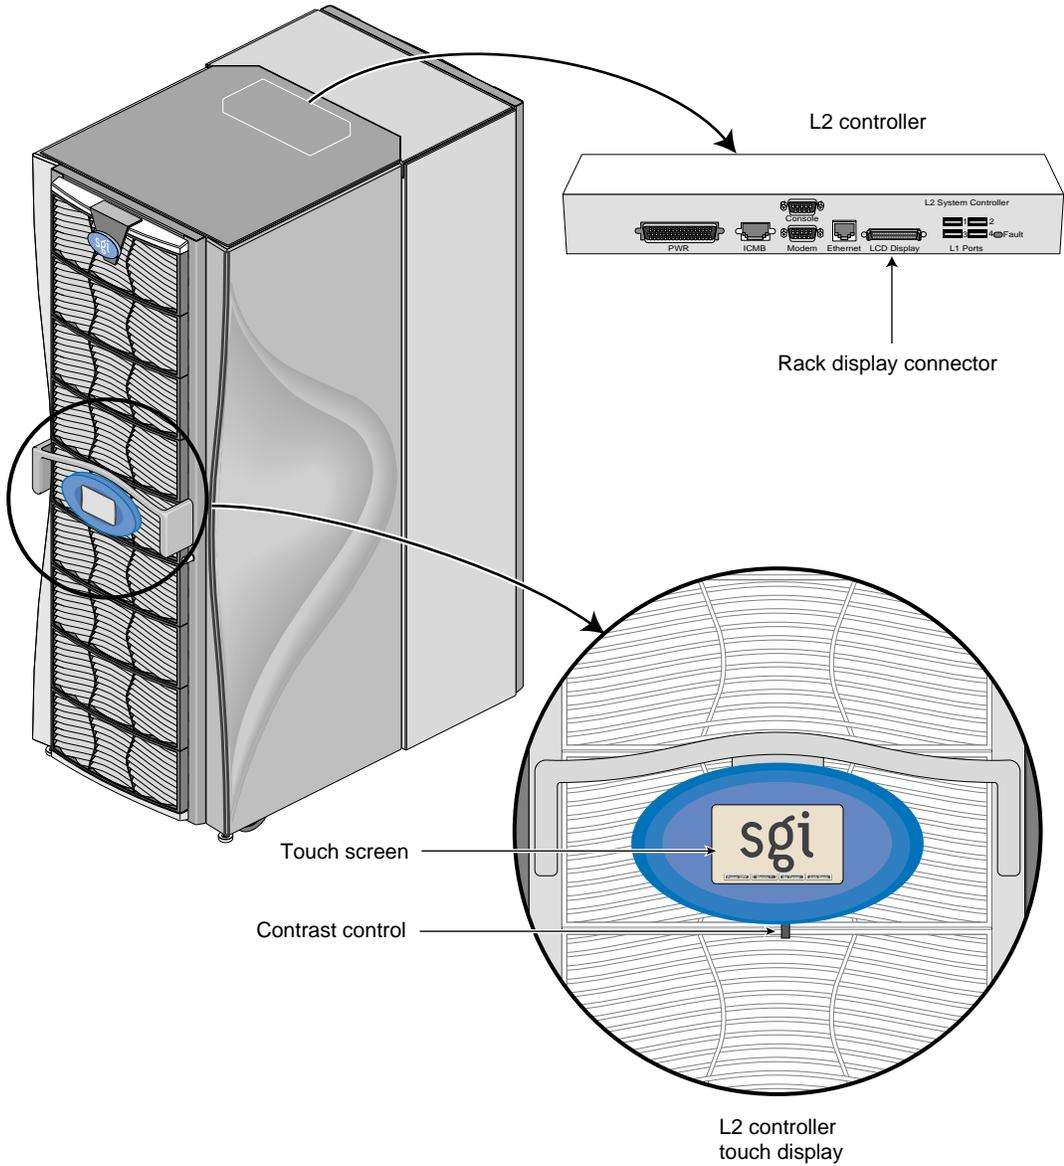

Figure 2-27 L2 Controller Display
- On the L2 controller's display on the front door of the tall rack shown in Figure 2-27, you can see the L1 status and error messages for each brick in the rack. You can also see status and error messages generated by the L2 controller for the chassis items not covered by the L1 controller, such as for the functioning of the power bay.